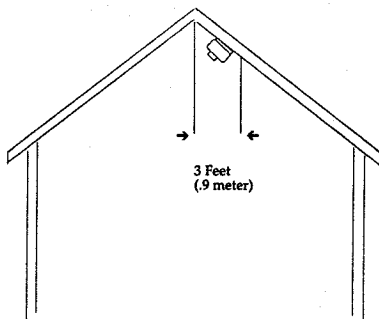

Figure B.1. Peak Diagram
- Mount smoke detectors in rooms with sloped, peaked, or gabled ceilings whenever possible. If unavoidable, mount detectors 3 feet (0.9 meter) measured horizontally from the highest point of the ceiling. (Refer to Figure B.1.)